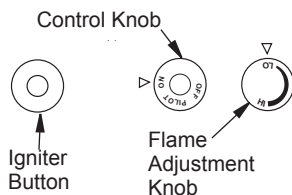

Figure 40 - Control Knob and Igniter Button Location
3. Press in and turn control knob clockwise to the OFF position (see **Figure 40**).
- Wait five (5) minutes to clear out any gas. Then smell for gas, including near the floor. If you smell gas, STOP! Follow B in the safety information, **Page 24**. If you don't smell gas, go to the next step.
- Press in and turn control knob counterclockwise  to the PILOT position. Press in control knob for five (5) seconds (see **Figure 40, Page 24**).